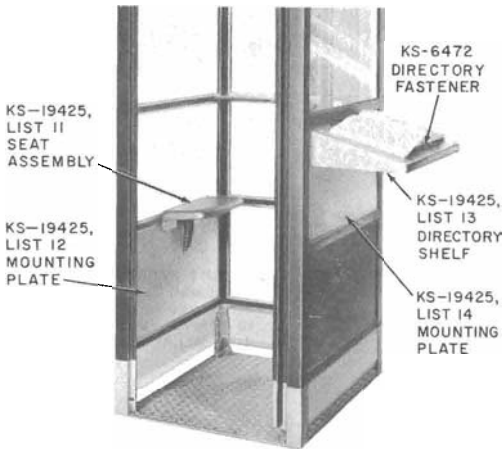

Fig. 5—KS-19425, List 11 Seat Assembly, KS-19425, List 13 Directory Shelf, and Associated Mounting
**2.12** Shelf assemblies, directory racks, and associated apparatus are listed in Table D and shown in Fig. 5 through 7.
**2.13** A KS-19425, List 11 seat assembly (Fig. 5) may be used if desired.
2.14 A KS-19425, List 12 mounting plate (Fig. 5) must be used for mounting the seat.
**JUNCTION BOX (MD)**